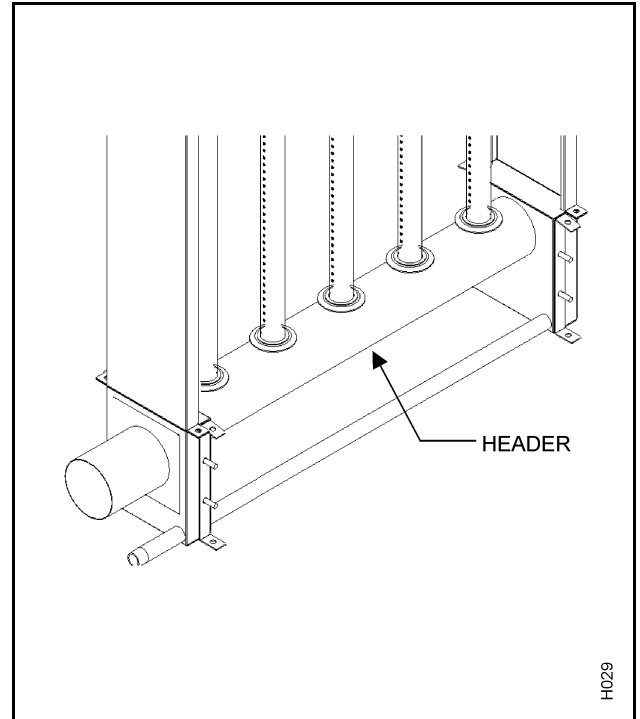

Figure 23. SAM-e Header
- (1) NORTEC offers different ranges of manifolds to cover capacities and duct sizes. The absorption distance and capacity required will determine the center to center spacing between each steam tube on the header. There are four options: 3" (7.6 cm), 6" (15.2 cm), 9" (22.9 cm) or 12" (30.5 cm). The smaller the spacing, the more tubes the header can accommodate, thus giving a better absorption distance and greater capacity. (See Tables 17 to 20.)
- (2) The header remains the same for in-duct or outside duct mounting, for atmospheric steam, and for vertical or horizontal flow applications. (See Figure 23.)
- (3) Atmospheric manifolds with a capacity over 801 lbs/hr (362 kg/hr) will include a second steam inlet on the header. Consult factory submittal drawings for specific details.
- (4) Select the header part number associated with your duct or air handling unit's width.